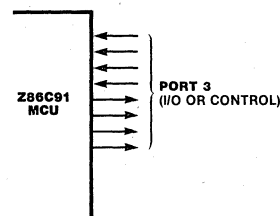

Figure 11. Port 3
**Port 3** lines can be configured as I/O or control lines (Figure 11). In either case, the direction of the eight lines is fixed as four input ( $P3_0$ - $P3_3$ ) and four output ( $P3_4$ - $P3_7$ ). For serial I/O, lines  $P3_0$  and  $P3_7$  are programmed as serial in and serial out, respectively.